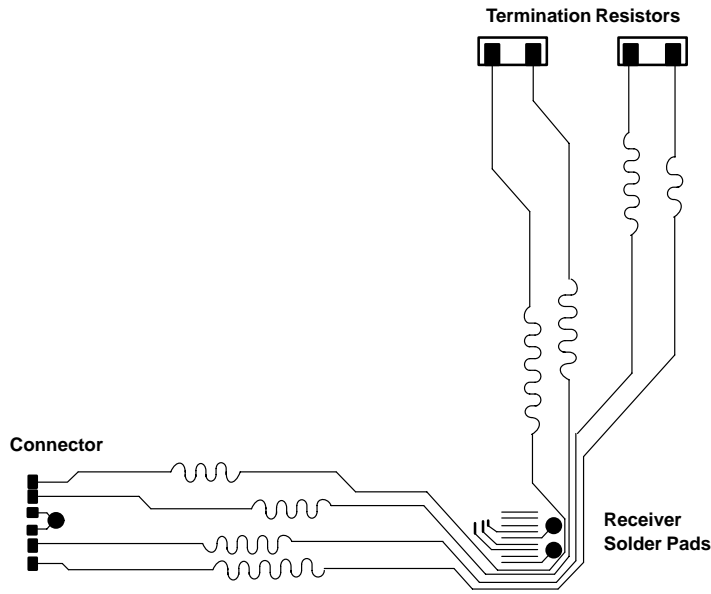

Figure 5. Fly-By Termination at the Receiver
- The interconnect ends at the termination. If the receiver cannot be located within 2 cm of the termination, use the fly-by termination shown in Figure 5.